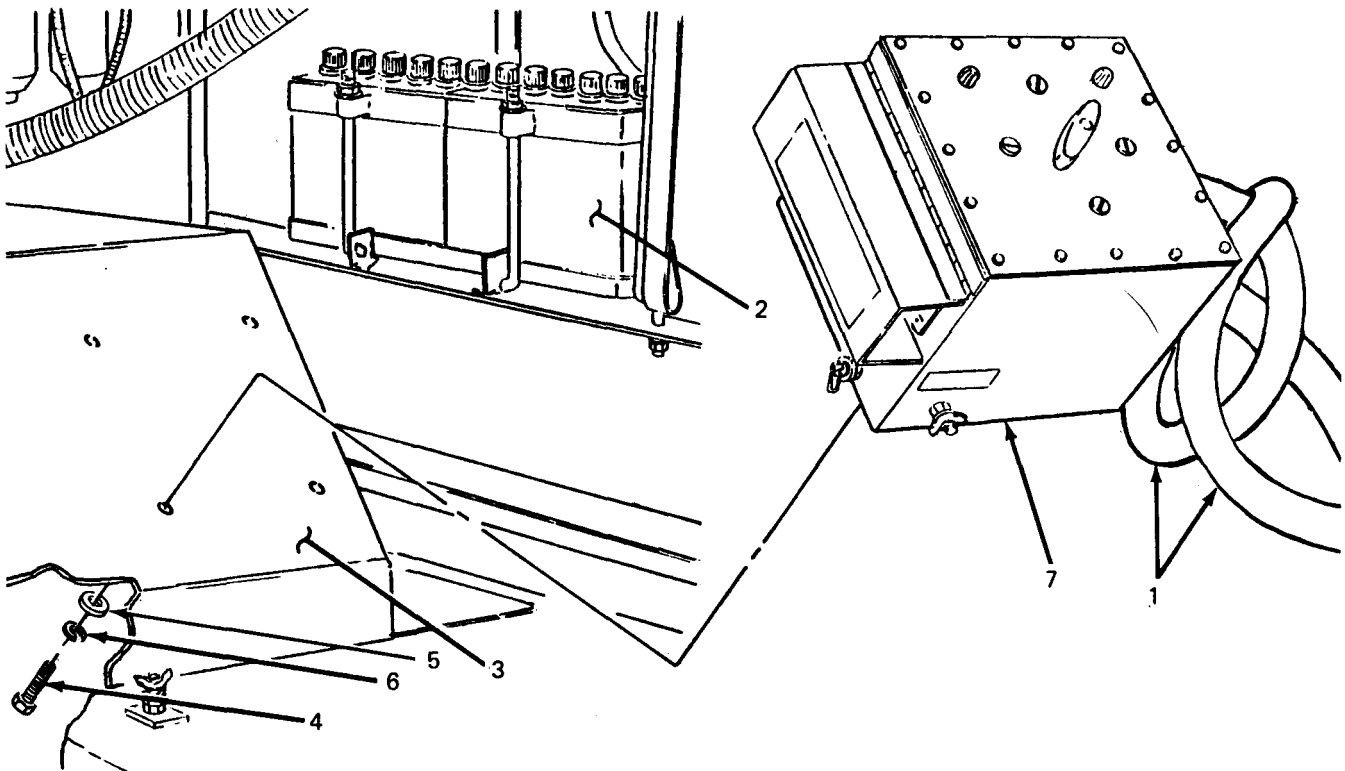

Figure 4-9. Switch Box Replacement.
- (1) Set multimeter for continuity testing.
- (2) Set switch lever to GEN 1 position.
- (3) Touch one probe to switch terminal A1 and remaining probe to switch terminal L1. Repeat test between terminals A2 and L2, and terminals A3 and L3. If multimeter does not indicate continuity exists between each pair of terminals, switch is defective. Notify higher level of maintenance.
- (4) Set switch lever to GEN 2 position and repeat step (3) above, substituting terminals B1, B2 and B3 for A1, A2 and A3.
**4-24. Switch Box Replacement.** (See figure 4-9.)
- (1) Detach power cables (1) from load terminals on generator sets (2). (Refer to TM 5-6115-585-12.)
- (2) Working underneath roadside fender (3), remove four screws (4), four flat washers (5) and four lockwashers (6) securing switch box (7) to fender.
- (3) Lift switch box (7) off fender.